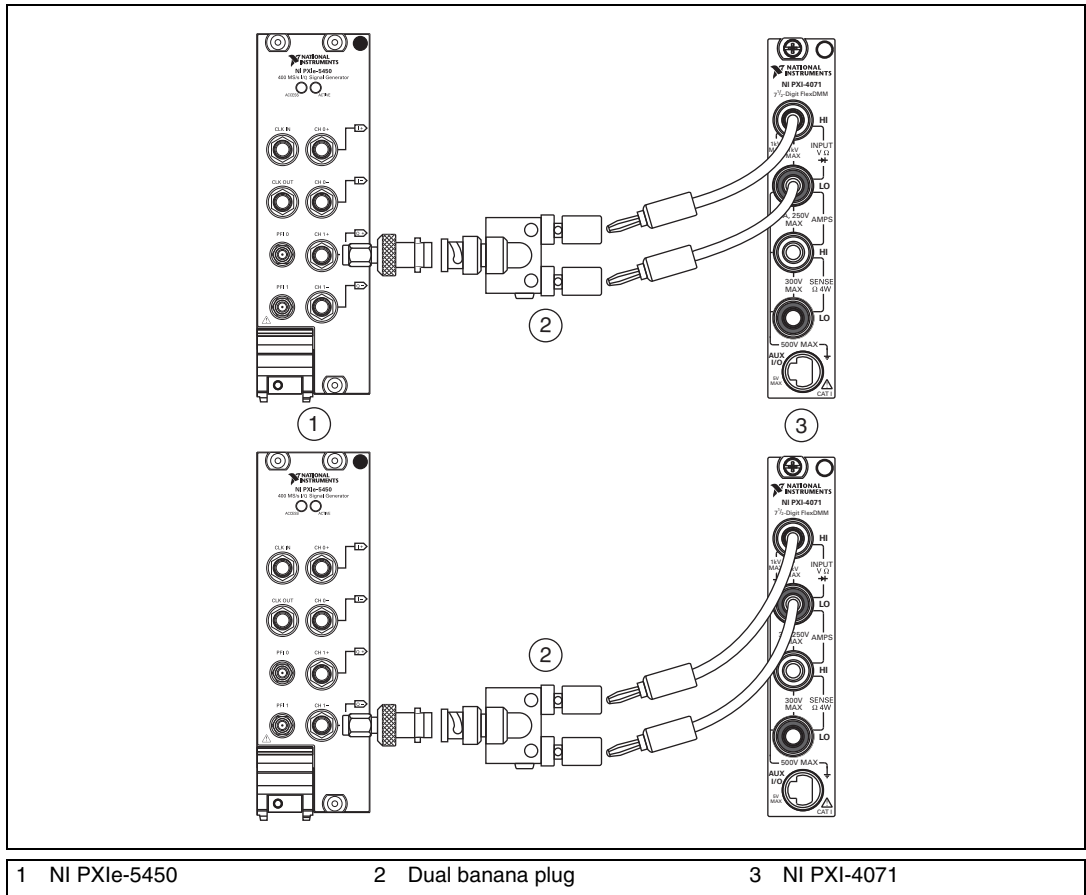

Figure 5. DC Voltage Common Mode Offset Accuracy Verification Connections (CH 1)
10. Repeat steps 1 through 9, replacing CH 0 with CH 1. The connections are shown in Figure 5.